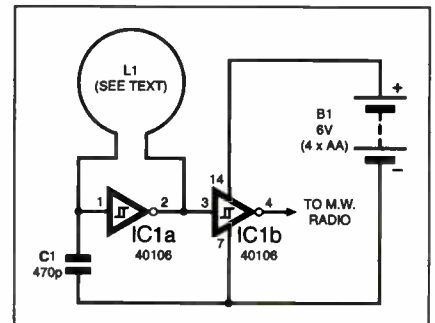

Fig.1. Three-component Metal Detector circuit.
THE circuit shown in Fig.1 must represent the limits of simplicity for a metal detector – yet the design works surprisingly well. It uses just one 40106 hex Schmitt inverter i.c., a capacitor, and a search coil – and of course the batteries. A lead from IC1b pin 4 needs to be attached to a medium wave (MW) radio aerial, or it should be wrapped around the radio.